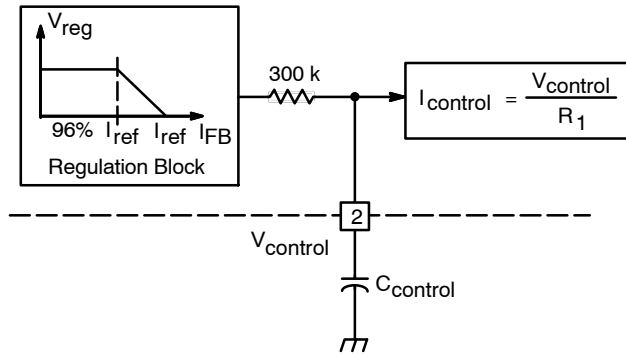
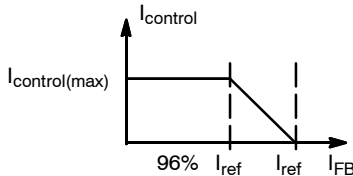

Figure 30. $V_{control}$ Low-Pass Filtering
Figure 32. Regulation Block
Control current $I_{control}$ is a roughly constant current that comes from the PFC output voltage V_{out} that is a slowly varying signal. The bandwidth of $I_{control}$ can be additionally limited by inserting an external capacitor $C_{control}$ to the control voltage $V_{control}$ pin (Pin 2) in Figure 30. It is recommended to limit $f_{control}$, that is the bandwidth of $V_{control}$ (or $I_{control}$), below 20 Hz typically to achieve power factor correction purpose. Typical value of $C_{control}$ is between 0.1 μ F and 0.33 μ F.
Feedback current I_{FB} which represents the output voltage V_{out} is processed in a function with a reference current ($I_{ref} = 200 \mu A$ typical) as shown in regulation block function in Figure 32. The output of the voltage regulation block, low-pass filter on $V_{control}$ pin and the $I_{control} = V_{control} / R_1$ block is in Figure 30 is control current $I_{control}$. And the input is feedback current I_{FB} . It means that $I_{control}$ is the output of I_{FB} and it can be described as in Figure 32. There are three linear regions including: (1) $I_{FB} < 96\% \times I_{ref}$, (2) $96\% \times I_{ref} < I_{FB} < I_{ref}$, and (3) $I_{FB} > I_{ref}$. They are discussed separately as follows: